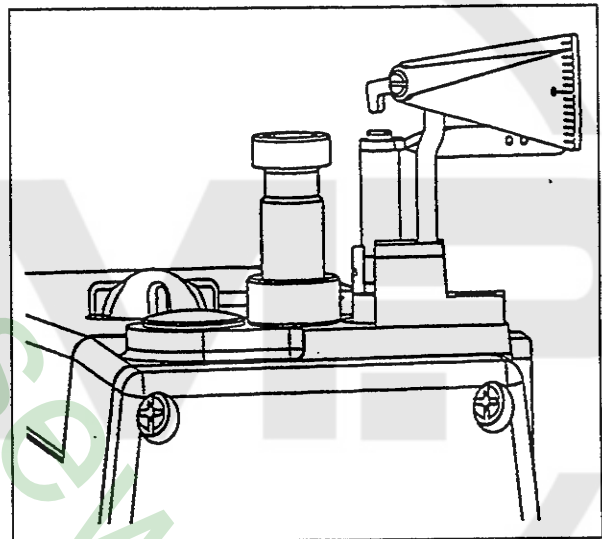
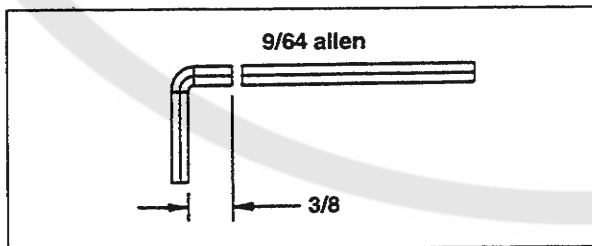
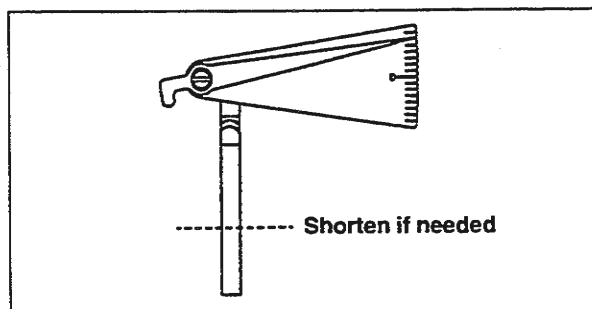

Fig. 3
Fig.4
Fig. 5
<ul style="list-style-type: none"> ○ Drain oil. ○ Remove oil pan. ○ Modify a standard 9/64" allen wrench (Fig.4). ○ Flag indicator from TT146 may need to be shorten (Fig. 5). ○ Remove looper and mount modified allen wrench in looper holder. ○ With needle bar at bottom dead center adjust looper holder so allen wrench is .400" (10 mm) from throat plate (Fig. 6). ○ Turn machine in operating direction until allen wrench contacts throat plate, assemble indicator to top of machine as shown in (Fig. 3) and set indicator point to "0". ○ Turn machine in opposite direction until allen wrench contacts throat plate. <p>(Note)</p> <p>Reading of indicator.</p> <p>If distance is less than "0".</p> <ul style="list-style-type: none"> • Loosen screw A (Fig. 7). • Move drive lever crank B away from looper rocker lever C. • Retighten screw A. • Recheck indicator readings in both rotating directions, until they are the same, +/- 1 mark. • Torque screws A. <p>If distance is more than "0".</p> <ul style="list-style-type: none"> • Loosen screw A (Fig. 7). • Move drive lever crank B towards looper rocker lever C. • Retighten screw A. • Recheck indicator readings in both rotate directions, until they are the same, +/- 1. • Torque screw A to 130 in. lbs. (15 Nm). • Replace removed parts. • Refill with UNION SPECIAL 175 oil. (Part No. 28604R)  <p>The diagram, labeled Fig. 7, shows a side view of the looper mechanism. It features a central drive lever crank (B) that can move horizontally. A screw (A) is used to adjust the tension of the drive lever. A looper rocker lever (C) is positioned to the right of the drive lever crank. The diagram illustrates how the distance between the drive lever crank and the looper rocker lever is adjusted by moving the drive lever crank towards or away from the rocker lever.</p> <p style="text-align: center;">Fig. 7</p>	<ul style="list-style-type: none"> ○ Skipped stitches